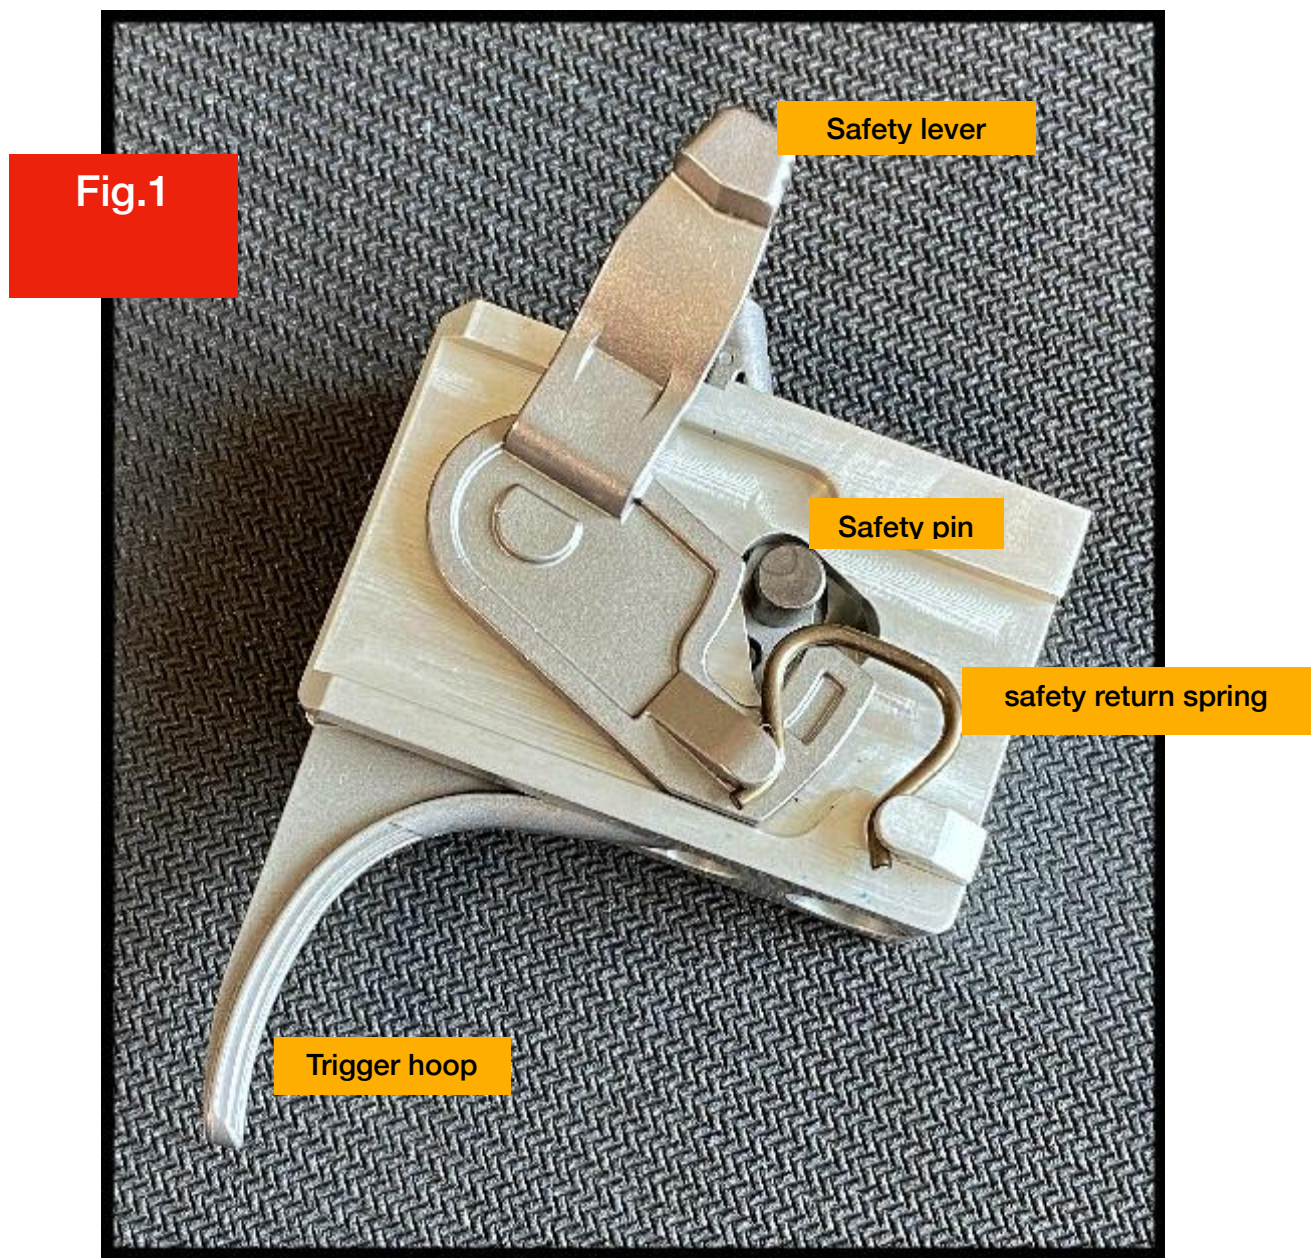

Fig. 2
(See Fig. 1 and Fig. 2 below)
- 7.) (See Fig. 2). Locate and remove the cir-clip and washer from the opposite side of the trigger case. Now the safety lever can be removed.